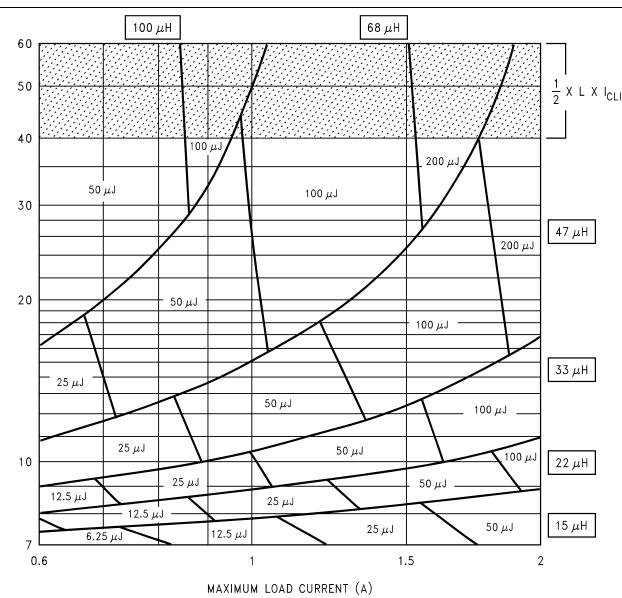

Figure 34. LM2593HV 5-V
1. A first pass inductor selection is based upon inductance and rated maximum load current. Choose an inductor with the inductance value indicated by the nomograph (see Figure 34) and a current rating equal to the maximum load current. Therefore, quick-select a 68- μH , 1-A inductor (designed for 150-kHz operation) for this application.
2. Confirm that it is rated to handle 50 μ J (see Figure 34) by either estimating the peak current or by a detailed calculation as shown in AN-1197 Selecting Inductors for Buck Converters \(SNVA038\), and also that the losses are acceptable.
1. A first pass inductor selection is based upon inductance and the switch current limit. Choose an inductor with the inductance value indicated by the nomograph (see Figure 34) and a current rating equal to I_{CLIM} . Therefore, quick-select a 68- μ H, 4-A inductor (designed for 150-kHz operation) for this application.